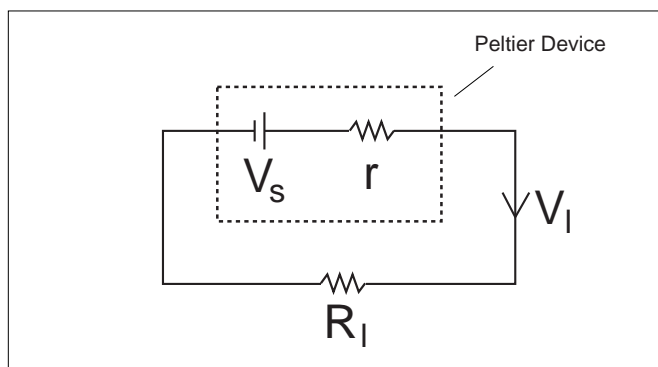
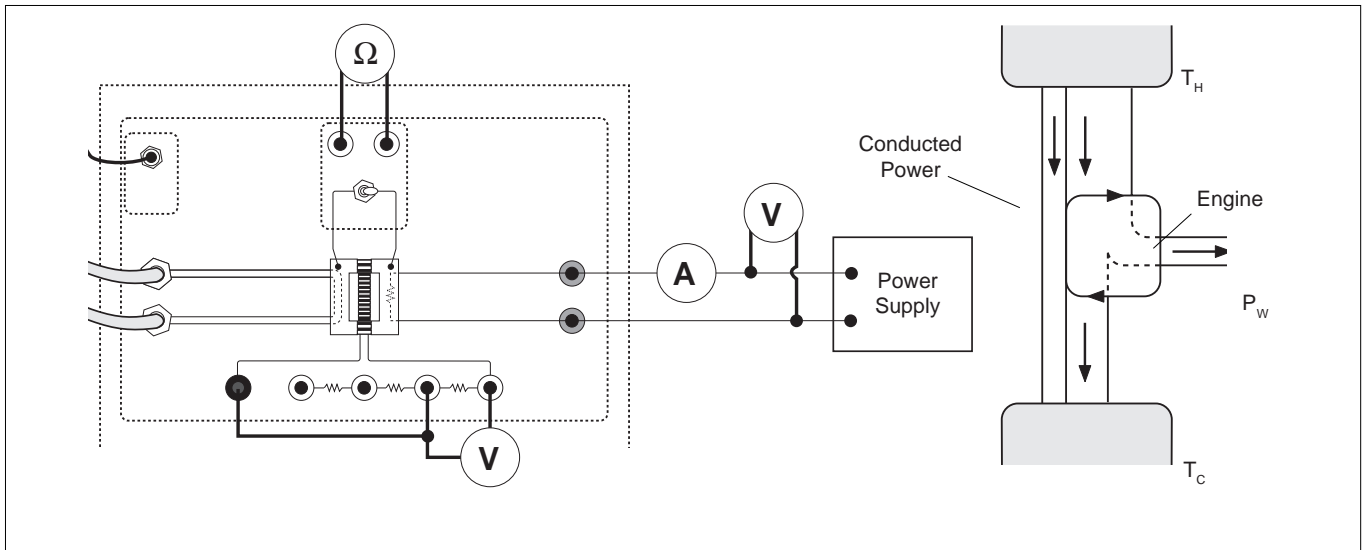
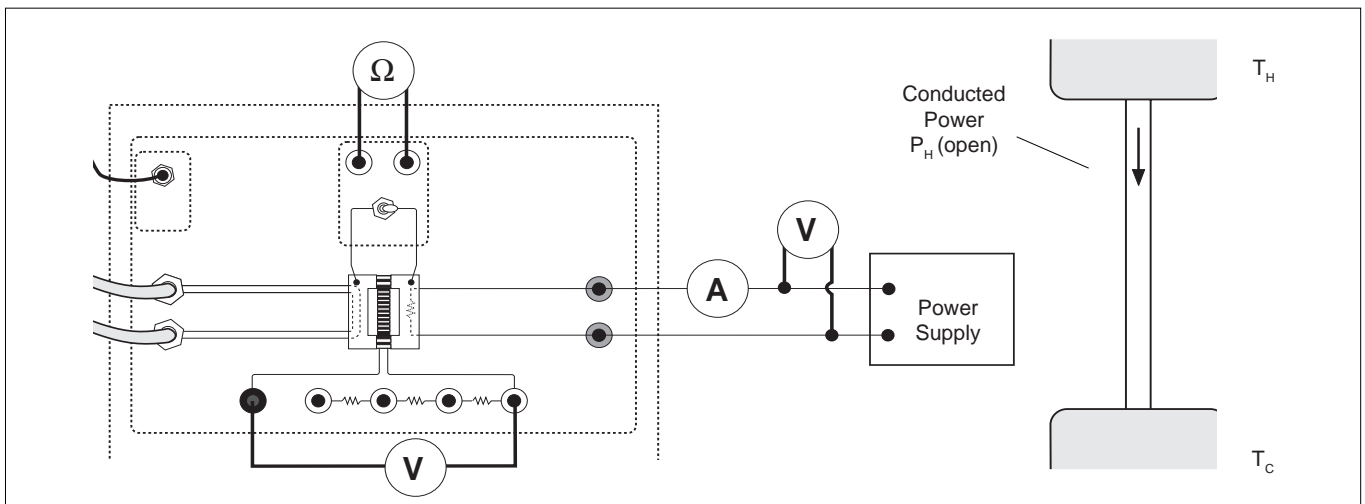
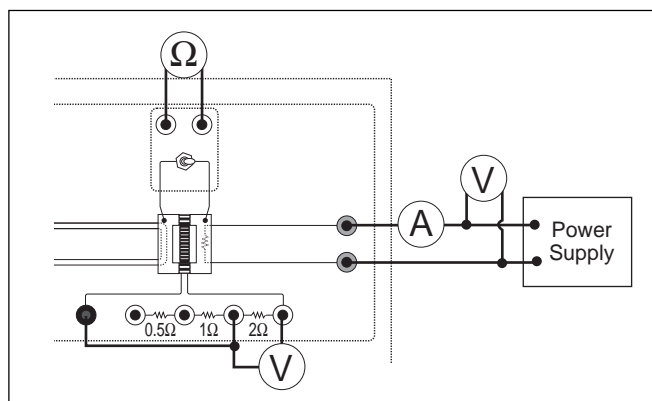

Figure 5: Procedure for Finding Internal Resistance
Figure 6: Heat Engine With A Load
Figure 7: No Load
Figure 2.1
First run the Thermal Efficiency Apparatus with a load resistor ( $R$ ) as in figure 6. The electrical equivalent of this setup is shown in figure 5. Kirchoff's Loop Rule gives
Next, run the Thermal Efficiency Apparatus with no load, as in Figure 7. Since there is no current flowing through the internal resistance of the Peltier Device, the voltage drop across the internal resistance is zero and the voltage measured will just be  $V_S$ .
The Thermal Efficiency Apparatus is run with a load connected to measure  $P_H$  (Figure 6) and then the load is disconnected and the power input into the hot reservoir is adjusted to maintain the temperatures (less power is needed when there is no load since less heat is being drawn from the hot reservoir). See Figure 7.  $P_{H(\text{open})}$  is the power input
The work can be measured directly but the heat delivered to the hot reservoir has to be measured indirectly. Notice that when the heat pump is operating, the temperature of the hot reservoir remains constant. Therefore, the hot reservoir must be in equilibrium and the heat delivered to it must equal the heat being conducted and radiated away. So a measurement of the heat conducted and radiated away at a given temperature difference will also be a measurement of the heat delivered to the hot reservoir. The heat conducted and radiated is measured by running the device with no load and measuring the heat input needed to maintain the temperature of the hot side (Figure 7).
- B. Connect the 2Ω load resistor with a short patch cord as shown in Figure 2.1. Connect a voltmeter across the load resistor.
- ② Open
- A. Disconnect the patch cord from the load resistor so no current is flowing through the load and thus no work is being done. Now all the power delivered to the heating resistor is either conducted to the cold side or radiated away. Leave the voltmeter attached so that the Seebeck voltage ( $V_s$ ) can be measured. (see figure 7)